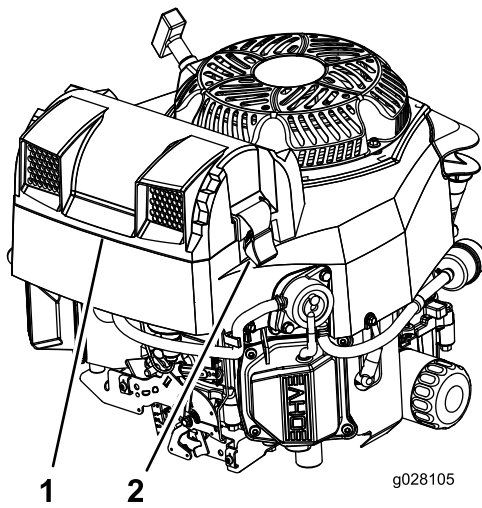

Figure 34
2. Remove the cover to access the air-cleaner elements (Figure 34).
3. Install the cover, and secure it with the latches (Figure 34).